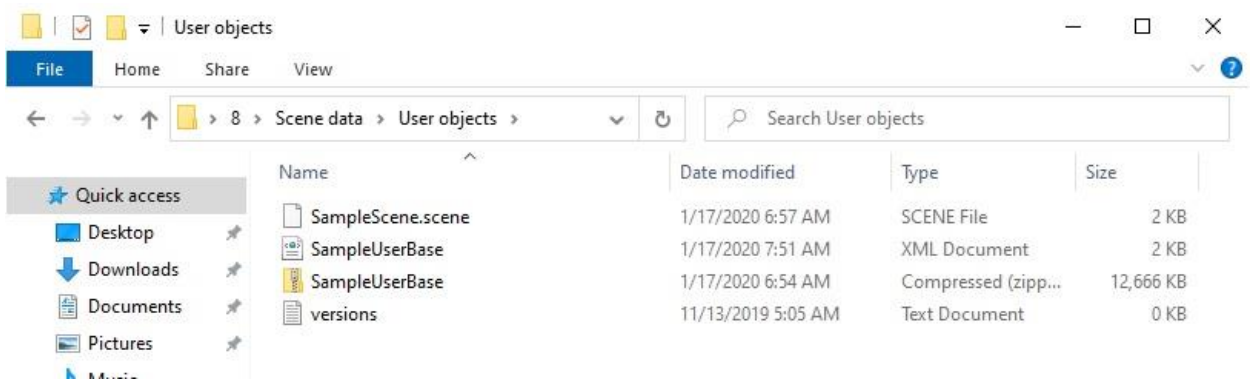

Figure 30.21. *{UM Data}\Scene data\User object* folder
- Finally copy the archive to the standard folder for the user 3D object collection *{UM Data}\Scene data\User object*, see Figure 30.21.